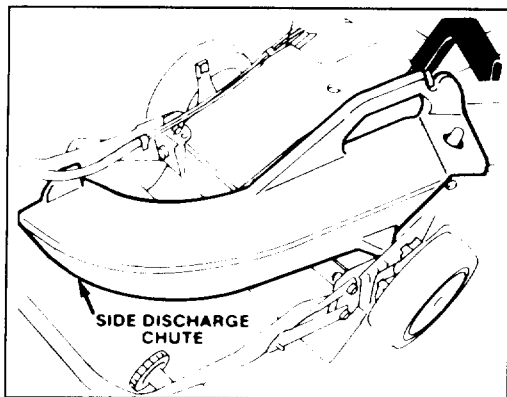

Figure 34
1. Side Discharge Kit, Model No. 59168—Installs in seconds. Rear mounted in place of the grass bag. Disperses clippings while trimming on both sides (Fig. 34).